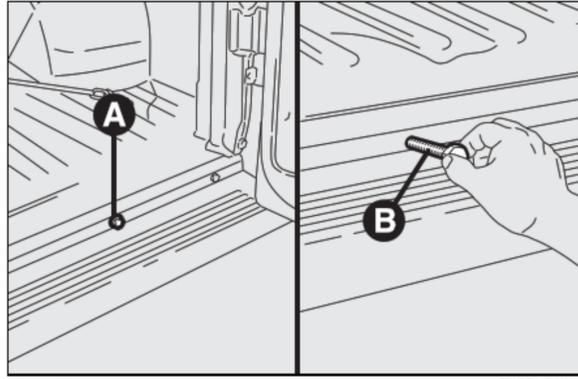
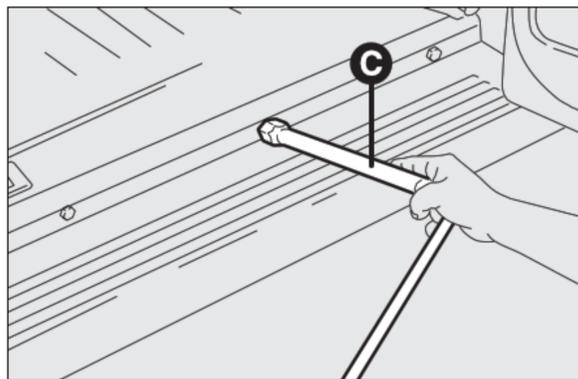

fig. 4
fig. 5
- fit the wrench **C-fig. 5** to extension **B-fig. 4** and turn it clockwise to raise the spare wheel;
- remove the extension **B-fig. 4** and re-fit it together with the wrench **C-fig. 5** into the tool compartment;